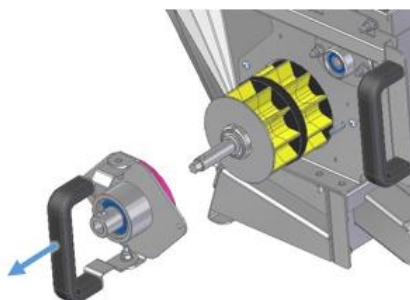

Figure 19
- By pulling out the cotter pin, the bearing flange can be removed from the seeding shaft (see Figure 19).